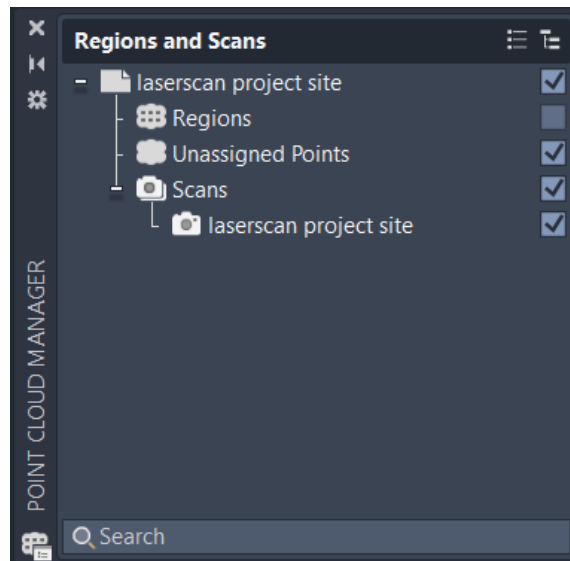

Figure 5.18 – Point Cloud Manager
8. The second-to-last option moving to the right is **Point Cloud Manager**. Let's click that to expand its options. As shown in *Figure 5.18*, **Point Cloud Manager** gives us options similar to the *Project Navigator* within ReCap, but these same controls have been carried through to Civil 3D. In **Point Cloud Manager**, we can see the same regions we have created as well as different scan locations if we had these in our point cloud project. We do not, however, have these options now because we “unified” our scans and deleted the other data to allow for a smaller, more agile dataset while working in Civil 3D.